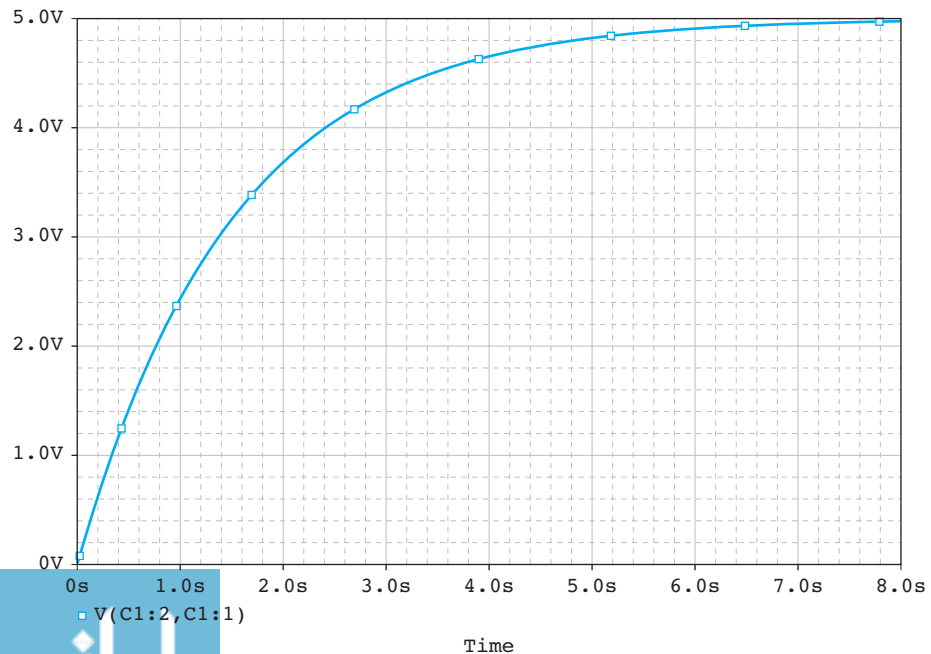
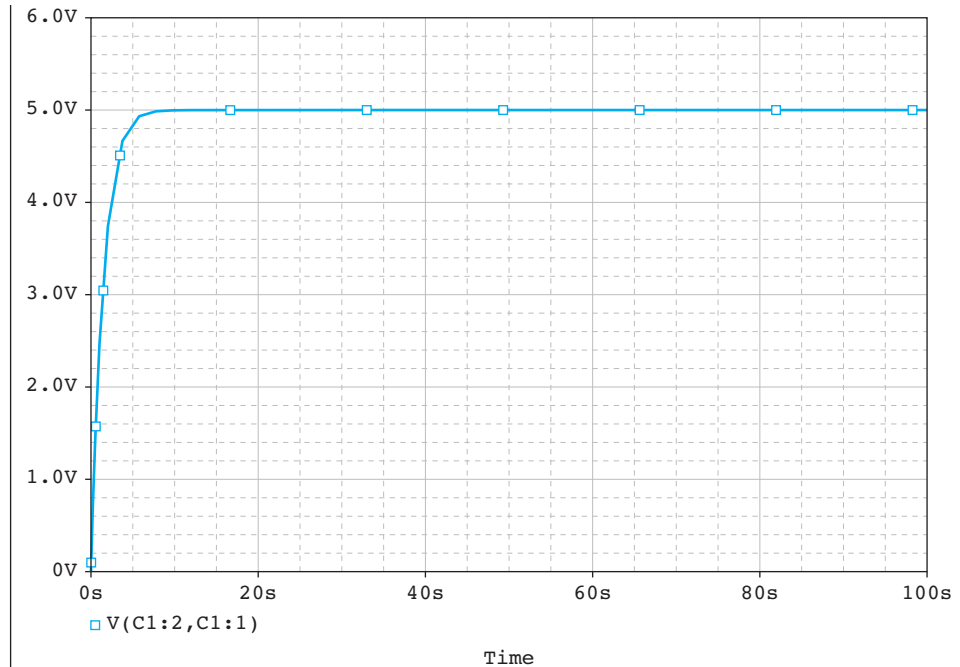

FIGURE 5.49 Voltage across the capacitor at $t = 5$ s.
FIGURE 5.50 Voltage across the capacitor at $t = \infty$.
- Figure 5.49 shows the voltage across the capacitor at $t = 5$, and Figure 5.50 shows the voltage across the capacitor at $t = \infty$.